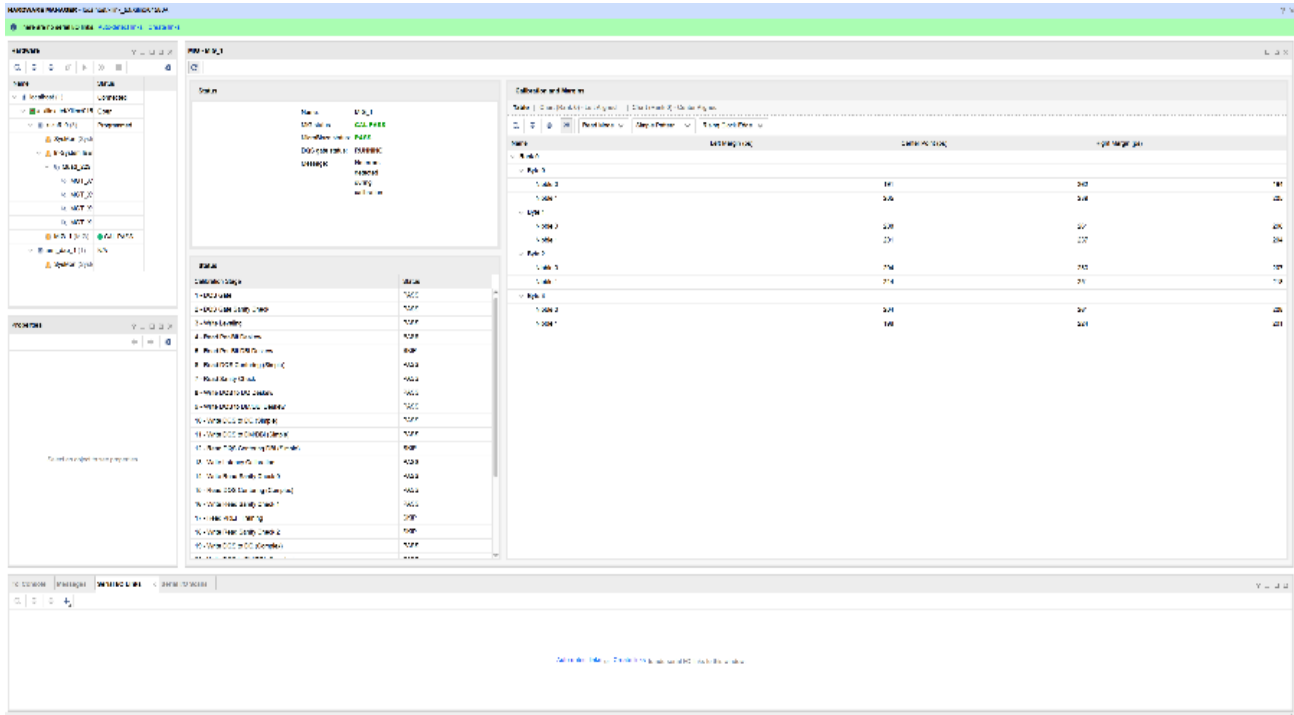

Figure 4. Sample IBERT IP Tool
- For the eye diagram pre-check, user can make use of the chipset IBERT IP tool for Eye Diagram Analyzer. Below Figure 4 photo shows an example tool screen If this is done, then there will be no need for use of Scope or BERT test before going to the certification test.